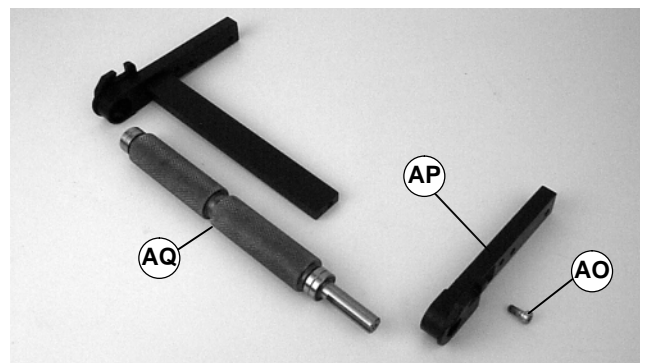

Figure 30
6. Remove screw (AO of Figure 30).
7. Remove headplate (AP).
8. Remove pulley (AQ).